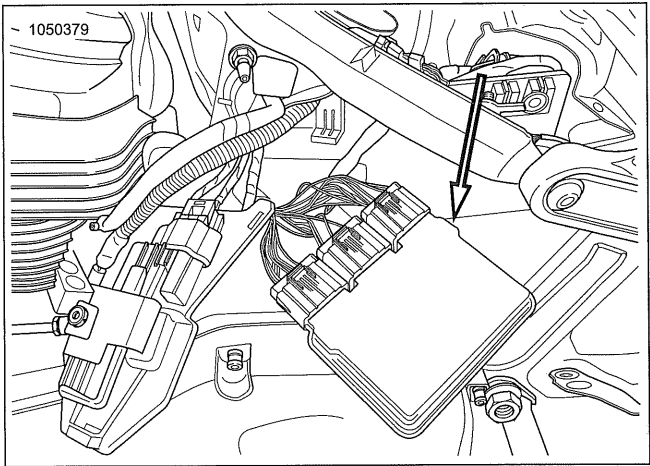

Figure 7-113. ECM Removed
- a. See Figure 7-113. Slide ECM forward.
- a. See Figure 7-113. Connect ECM connectors. Verify locking tabs are in the lock position.